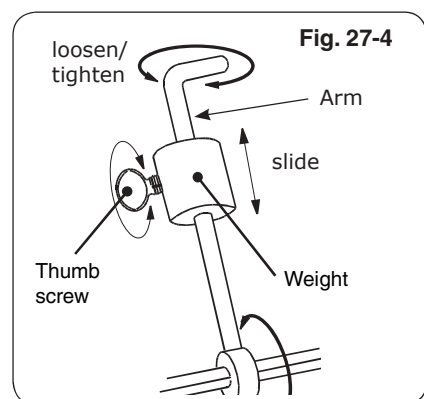

Fig. 27-4
7. Slide the counterbalance weight up or down the arm until the rod rotates most evenly then tighten thumb screw (Fig. 27-4 and Fig. 27-5).